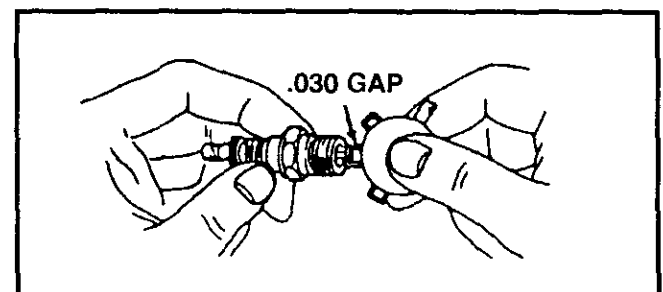

FIG. 6
- Clean the spark plug and reset the gap periodically to .030 inch (See FIG. 6).